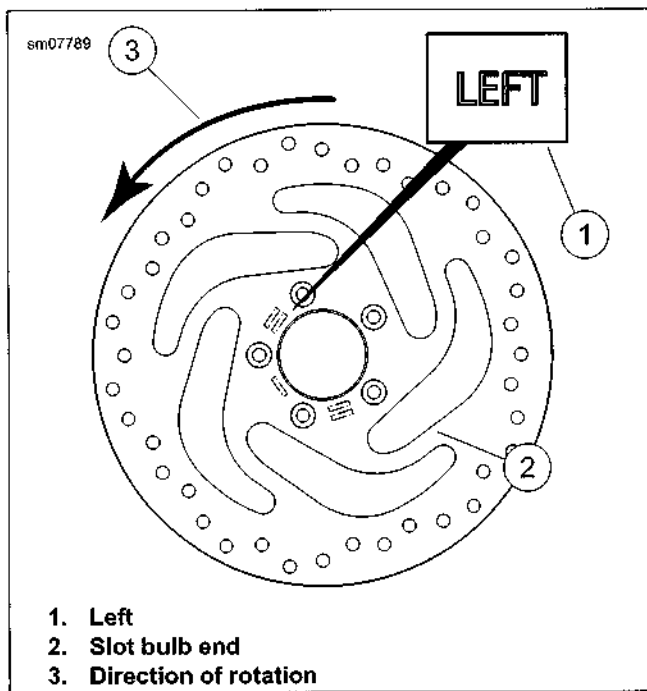

Figure 2-13. Single Disc Orientation
See Figure 2-13. Orient brake discs with the word **LEFT** (1) facing out. Verify that bulb shaped end (2) of slots points opposite direction of rotation (3).